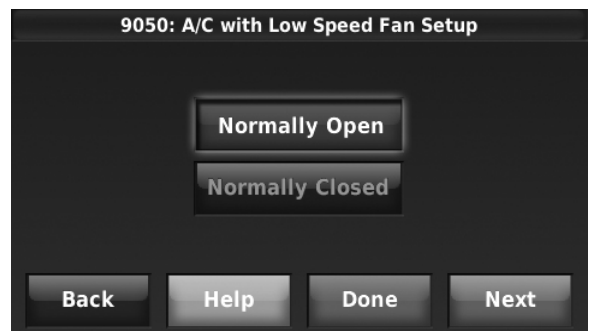

Fig. 116.
5. Select whether the U1, U2, or U3 terminals are Normally Open or Normally Closed. See Fig. 116.